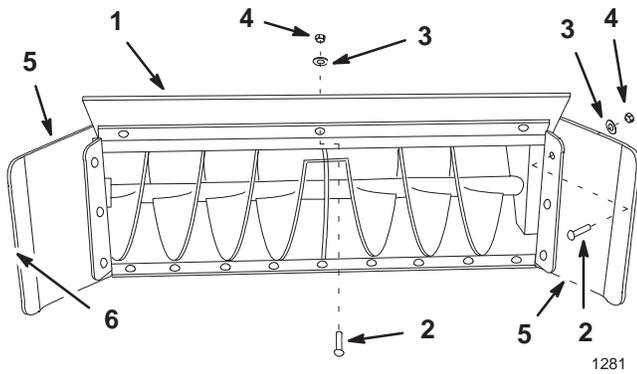

Figure 3
1. Rotate the housing down and position the top plate outside the top flange of the housing, securing it with 3 long shoulder bolts (3/8 x 1 in.) (heads on the inside), 3 washers (3/8 in.), and 3 locknuts (3/8 in.) (Fig. 3).
- Position the side plates outside the housing side flanges, with the cutting edges parallel to side of the housing, securing them with 6 long shoulder bolts (3/8 x 1 in.) (heads on the inside), 6 washers (3/8 in.), and 6 locknuts (3/8 in.) (Fig. 3).